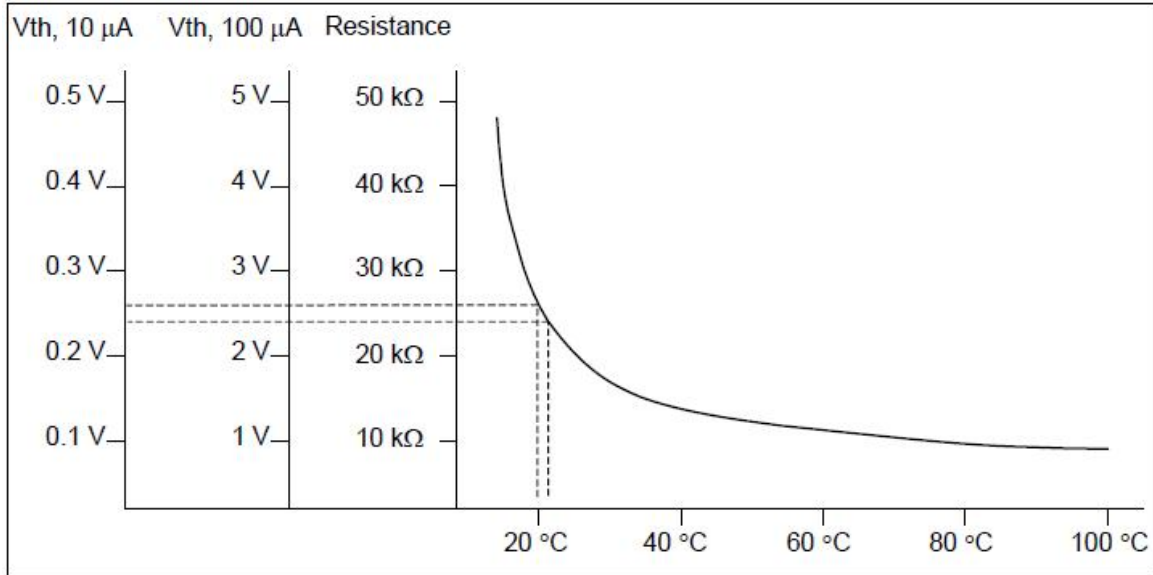

Figure 2.4 - Example Thermistor Resistance vs. Temperature
- To improve control responsiveness and accuracy, the thermistor voltage variations that result when the load temperature deviates from the setpoint must be as large as possible. The importance of maximizing voltage variation is shown in Figure 2.4, which shows resistance as a function of temperature for a thermistor. The values shown were selected for simplicity in this example, and may not reflect real thermistor values.
In the example shown in Figure 2.4, the thermistor resistance is 25 k Ω at 20°C. Deviations of one degree at 20 °C cause a resistance variation of about 2 k Ω . If using the 10 μ A setting, there is 20 mV of feedback to the control circuit. Using the 100 μ A setting provides 200 mV of feedback. The larger feedback signal means that the temperature is more precisely controlled. Notice also that the lower slope of the curve at the higher temperatures results in a smaller feedback signal. It may be necessary, if you are controlling to higher temperatures, to use a thermistor with a different curve.